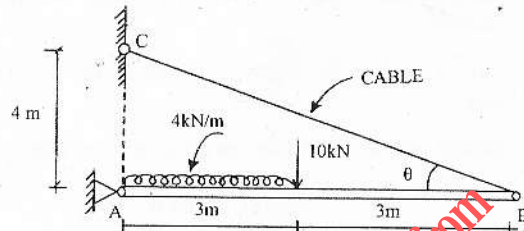

Fig. 1
6. Determine the reactive forces in the cable supported beam loaded and supported as shown in Fig. 1